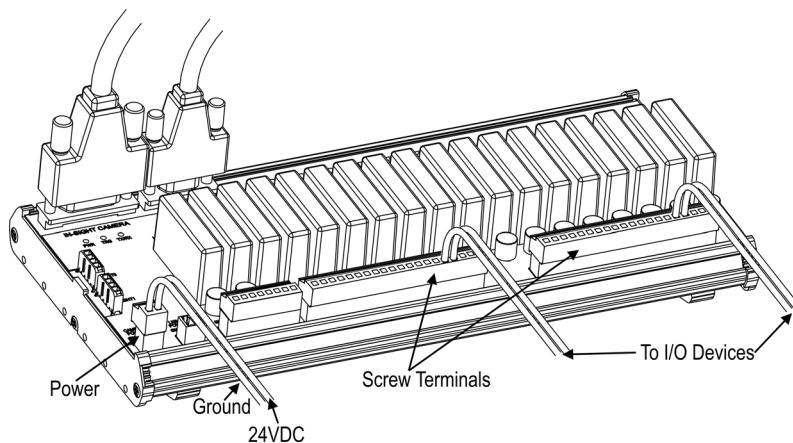

Figure 2-6: Connecting I/O Wires
Like the 1350 Breakout Module and the Model 1450 I/O Expansion Module, the optional Model 1460 I/O Expansion Module (P/N 800-5815), shown in Figure 2-6, provides convenient access to an In-Sight 3400 sensor's power, serial communications and discrete I/O lines. In addition to the two discrete outputs, acquisition trigger and serial transmit/receive that are standard on In-Sight 3400 sensors, the Model 1460 I/O Expansion module provides the following:
2. Connect the power and ground wires from remote I/O devices to terminals on the 1460 I/O Expansion Module (Figure 2-6).